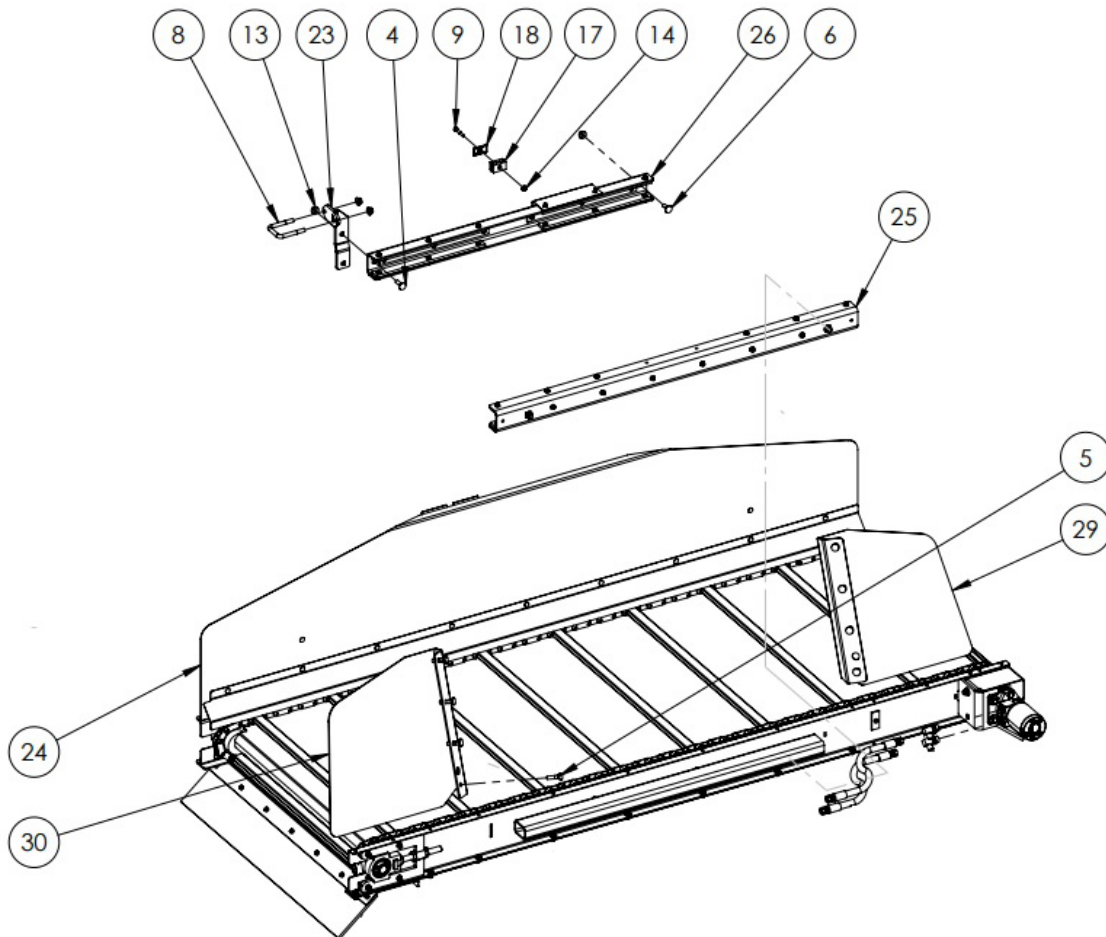

Figure 2: Remove the conveyor slide assemblies
3. Remove the conveyor slide assemblies from the flat bidirectional conveyor assembly, using *Figure 2* and *Table 1* as a guide.
- a. Remove the bracket (23) and U-bolt (8) from the front conveyor slide assembly (26).
- b. Remove the hydraulic hose clamps (17, 18) from the front conveyor slide assembly (26).
- c. Remove the front conveyor slide assembly (26).
- d. Remove the rear conveyor slide assembly (25).